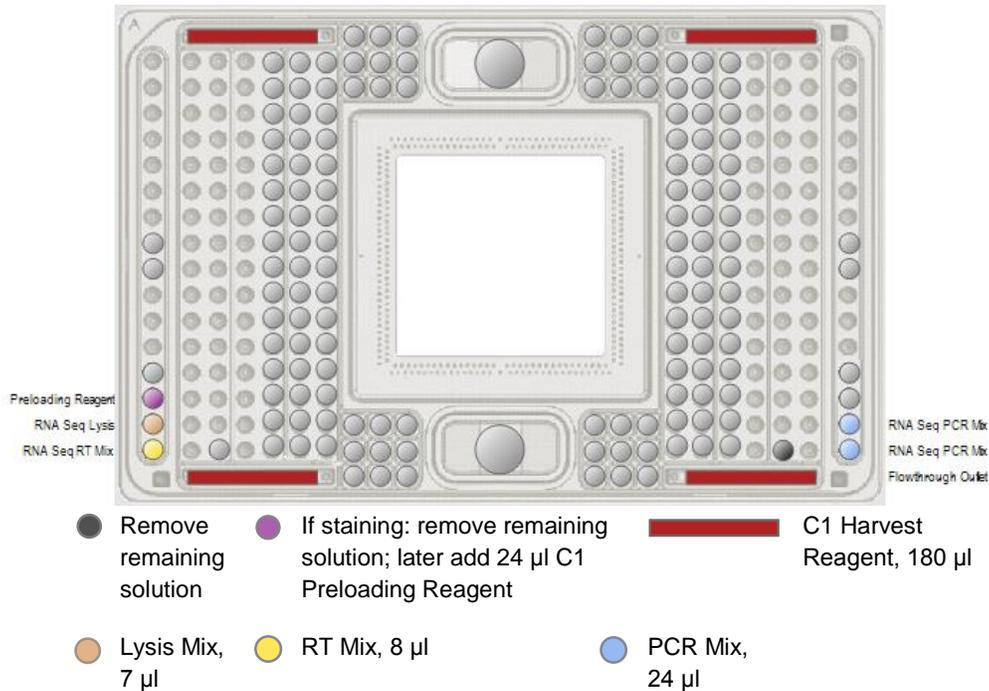

Figure 4. C1 IFC Lysis, RT, and PCR pipetting map.
2. Pipet 180 µl of C1 Harvest Reagent into each of the reservoirs (marked with large solid red rectangles; 4 total) in Figure 4.
4. Pipet 8 µl of Reverse Transcription (RT) Mix into Inlet 4 (marked with a yellow dot; 1 total).